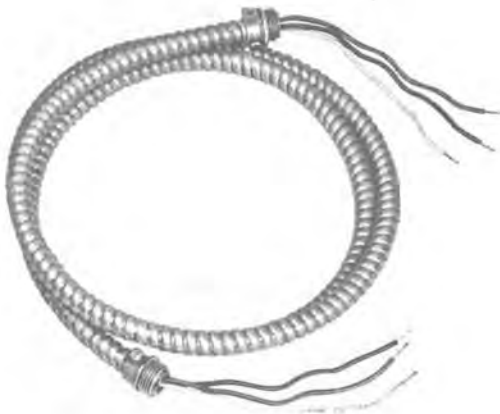

Fig. 6—KS-19425, List 24 Power Cable Assembly
- (c) *KS-19425, List 24 power cable assembly (Fig. 6):* Used to bring power from the KS-19426, List 17 circuit breaker box to the